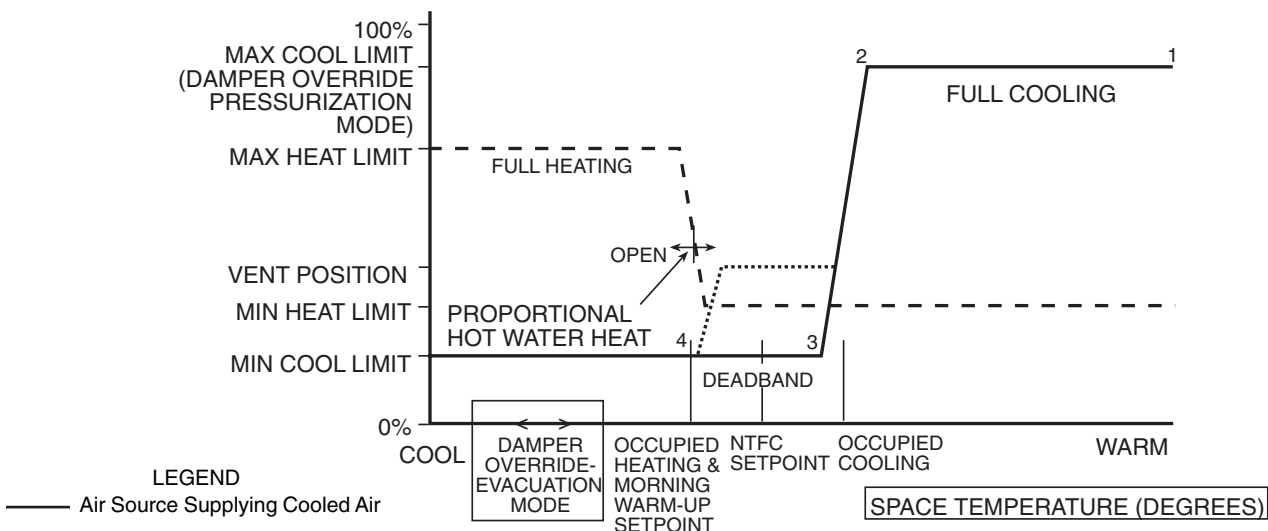

Figure 1 - Sequence of Operation for VVT, Cooling with Proportional Hot Water Heat
- A. Cooling: When the primary air source is providing cooling (as detected by the primary air sensor), refer to numbers on flow diagram. See Fig. 1.